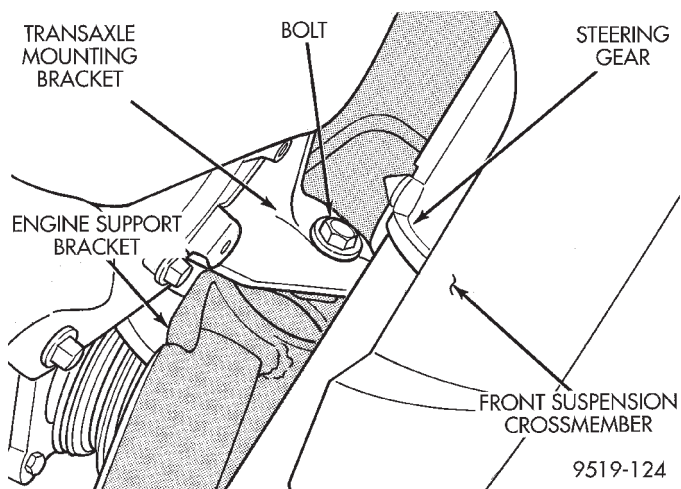

Fig. 16 Engine Support Bracket To Transaxle Bracket Bolt
(16) Remove bolt (Fig. 16) attaching engine support bracket to the transaxle mounting bracket.
(6) Install bolt (Fig. 16) attaching engine support bracket to transaxle mounting bracket. Tighten bolt to a torque of 75 N·m (55 ft. lbs.).